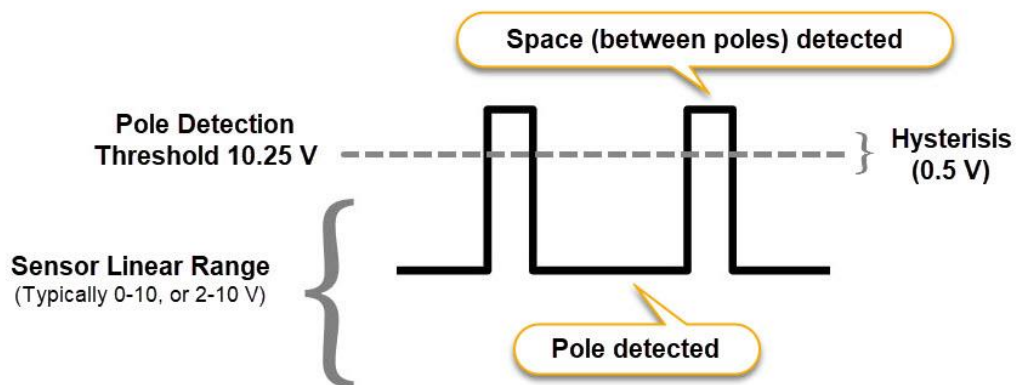
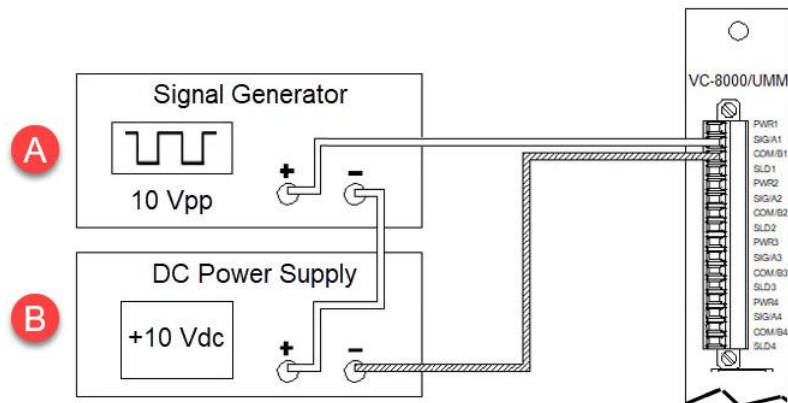

Figure 7-4) Typical Air Gap Sensor Signal
Figure 7-5) Test Air Gap alarms
Simulate the Air Gap channel using a function generator (A) and a DC power supply (B) as shown in **Figure 7-5**. The Minimum Air Gap measurement is calculated from the lower portion of the square wave (sensor viewing the pole); and the upper portion of the square wave (sensor viewing the space between the poles) must exceed 10.25 Vdc (see **Figure 7-4**).